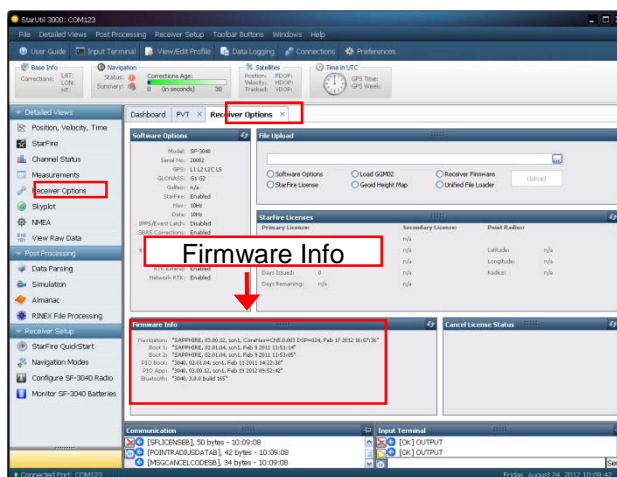

Figure 7: Access to Receiver Options Tab
In StarUtil 3000, checking the contents of the *Firmware Info* window (see Figure 7) on the *Receiver Options* tab is the easiest way to determine if the installed firmware is the most current. An alternative method is to use the *Input Terminal* window (see Determine Firmware Version via the Input Terminal, below).
19. Click *Receiver Options* on the *Detailed Views* menu to open the *Receiver Options* tab (see Figure 7).